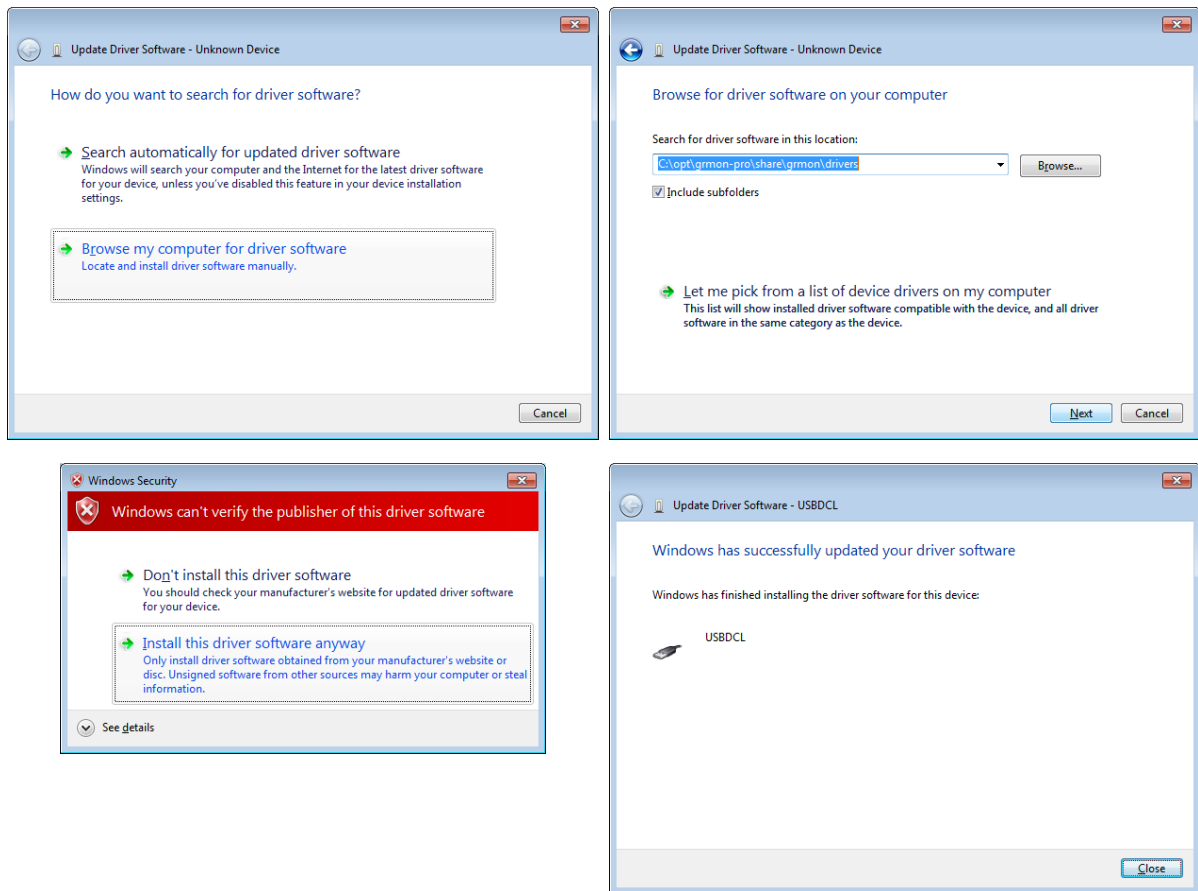

Figure 4.5.
3. In the dialog that open, the first image in Figure 4.5, choose **'Browse my computer for driver software'**.
5. A warning dialog might pop-up, like the third image in Figure 4.5. Press '**Install this driver software anyway**' if it shows up.